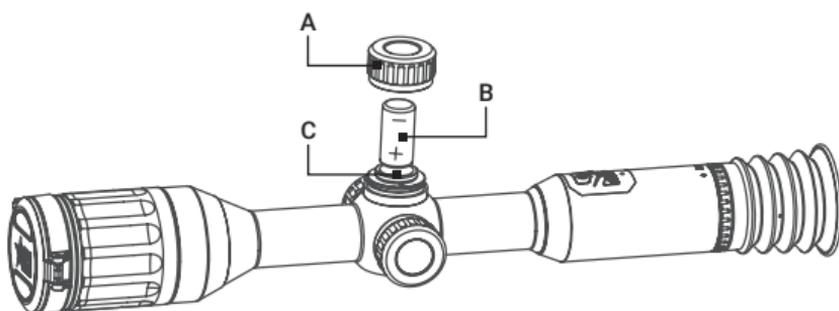

FIGURE 2-2. CR123A BATTERY INSTALLATION
1. Turn the battery cover (Figure 2-2, A) anticlockwise to open it.
2. Insert the CR123A battery (B) into the battery compartment (C) with the positive mark inward.